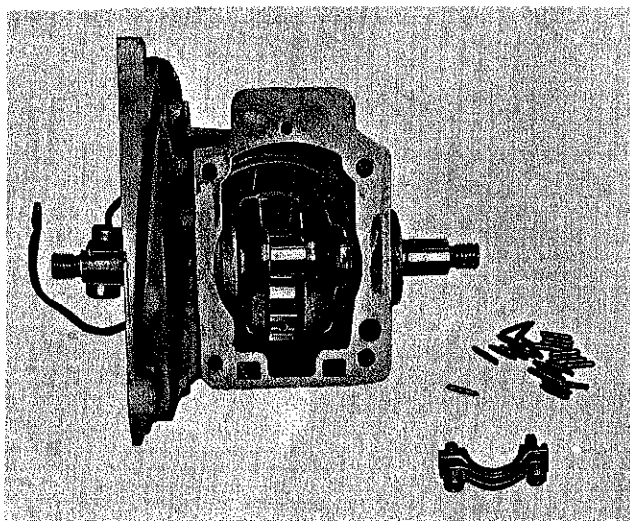

Figure X-3. The connecting rod cap and 24 needle bearings removed from the connecting rod and crankpin.
3. Remove the connecting rod cap and the 24 needle rollers, taking care to keep them all together and in a container where they will not become lost or scattered. (Figure X-3)